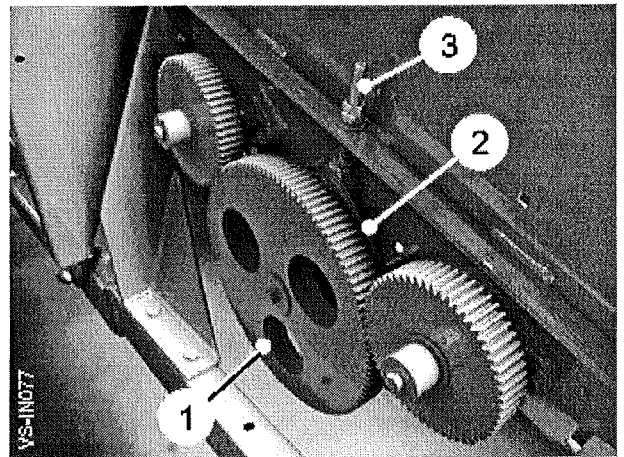

Fig 11
The meshing of the agitator motor drive gear (item 1, fig 11) can be set by loosening the motor plate (item 2, fig 11) and using the adjuster (item 3, fig 11). To raise or lower the motor plate a small amount of backlash should be allowed between the gears.